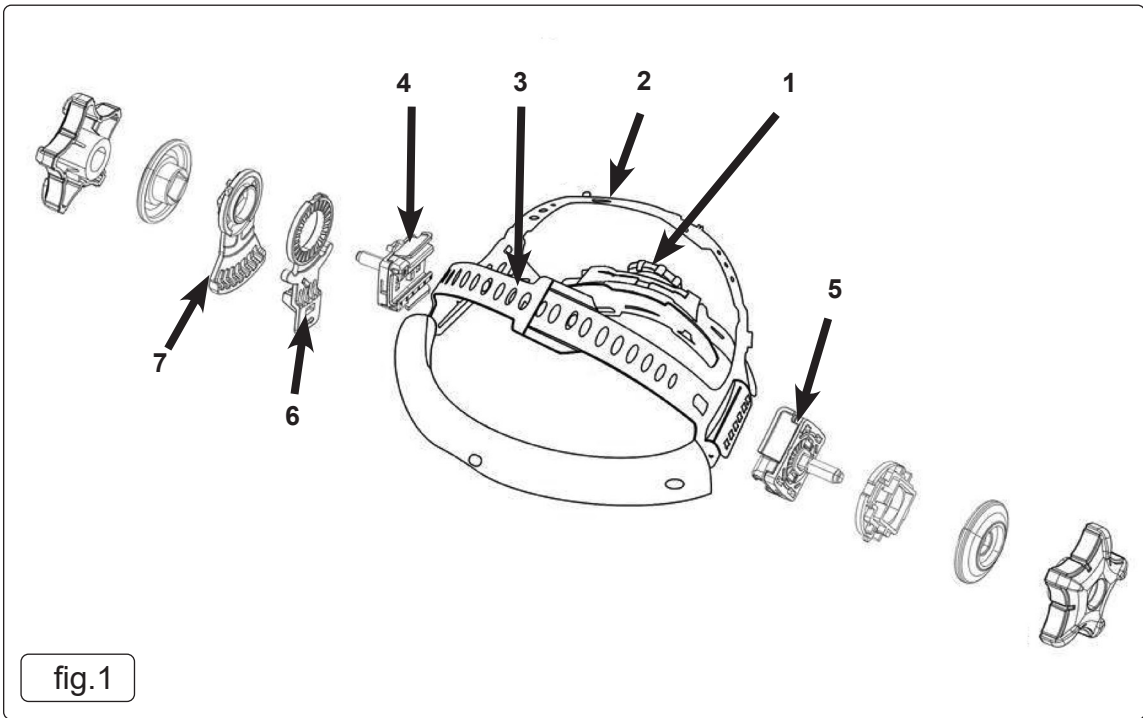

fig.1
4.1. HELMET ADJUSTMENT (fig.1)